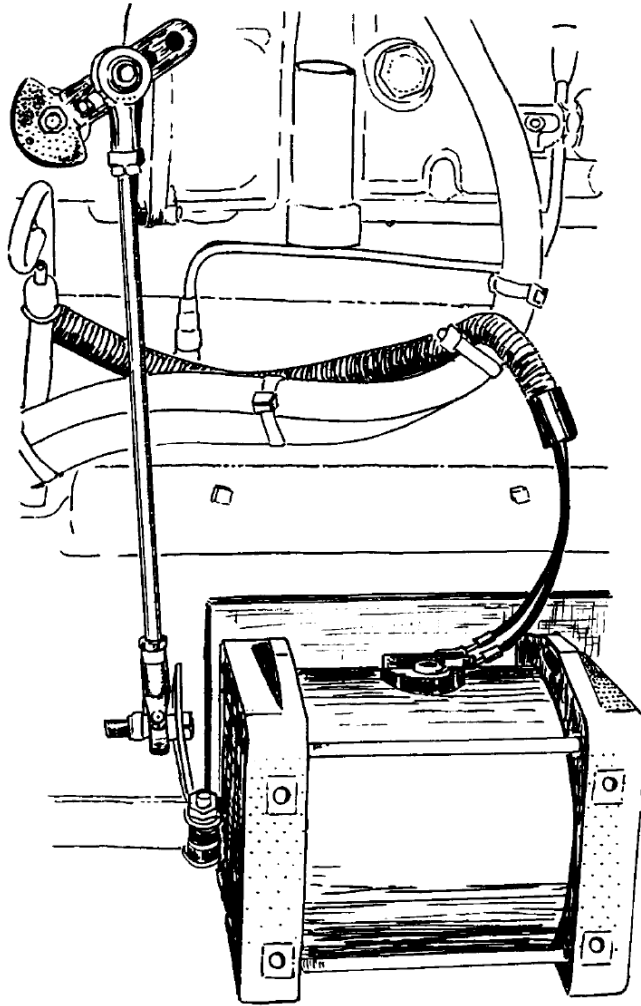

Figure 1. Actuator and Control Rod Assembly
1. Attach the mounting bracket to the electric actuator with four 0.250-20 x .625 hex head cap screws. Ensure that the actuator is placed on the bracket so the counterclockwise end-cap faces toward the rear of engine. Torque screws to 80 to 100 lb-in (9.0 to 11.3 N·m). Figure 1 illustrates actuator and control rod assembly.
4. Place the two drip pan bolt/washer assemblies in the slotted holes located on the bottom of the bracket and finger tighten. Torque skid bolts to 30 to 100 lb-ft (41 to 136 N·m) and drip pan bolts to 400 to 500 lb-in (45 to 56 N·m). Figure 1 illustrates location of bracket on mounting skid.